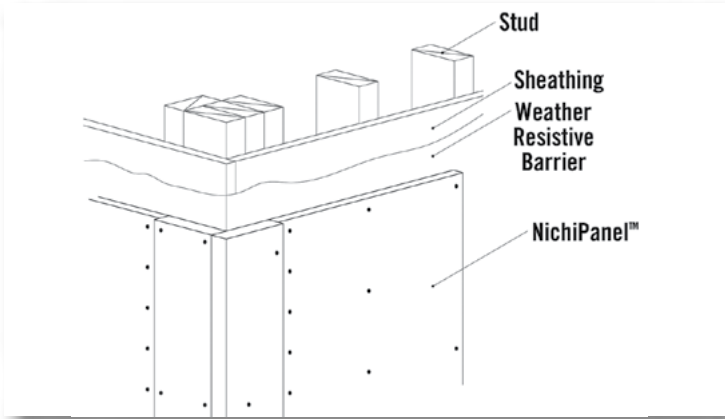

Fig. 13.2
- Leave a 1/8" or appropriate gap between the siding and trim and caulk in accordance to caulk manufacturer's recommendations. (Fig. 13.2)